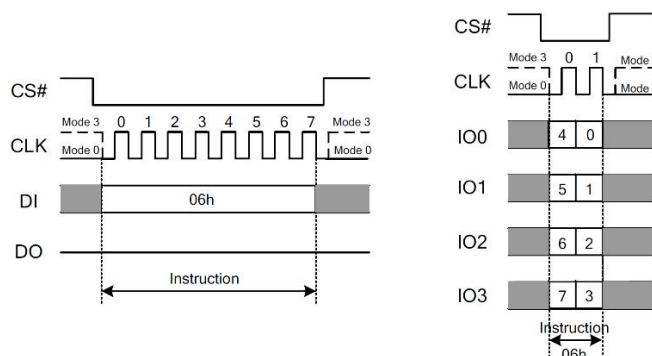

Figure 7.2 Write Enable Instruction(SPI or QPI Mode)
The Write Enable instruction (Figure 7.2) sets the Write Enable Latch (WEL) bit in the Status Register to a 1. The WEL bit must be set prior to every Page Program, Sector Erase, Block Erase, Chip Erase and Write Status Register instruction. The Write Enable instruction is entered by driving CS# low, shifting the instruction code "06h" into the Data Input (DI) pin on the rising edge of CLK, and then driving CS# high.